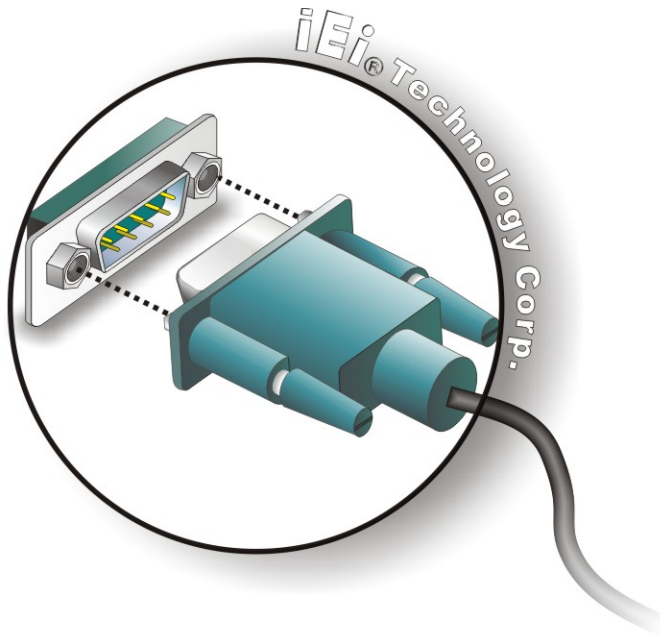

Figure 3-23: DB-9 Serial Port Connector
Step 2: Insert the serial connector. Insert the DB-9 connector of a serial device into the DB-9 connector on the bottom panel. See **Figure 3-23**.